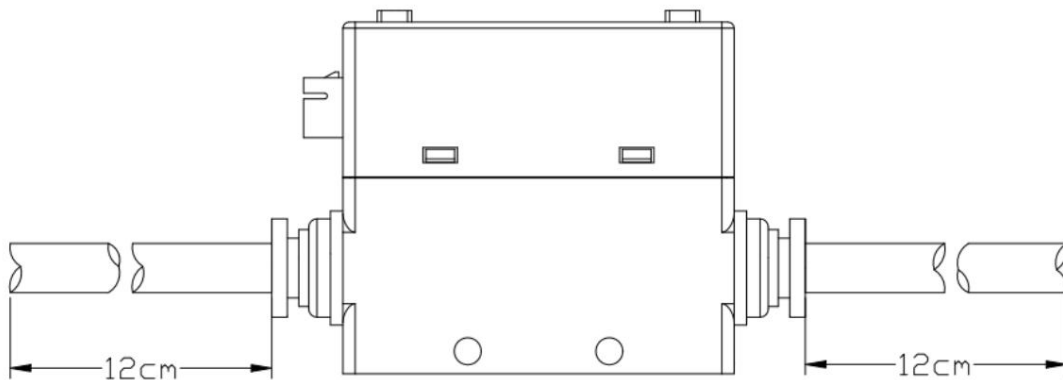

Figure 5. Piping Diagram
3.2 Piping method, as shown in Figure 5.